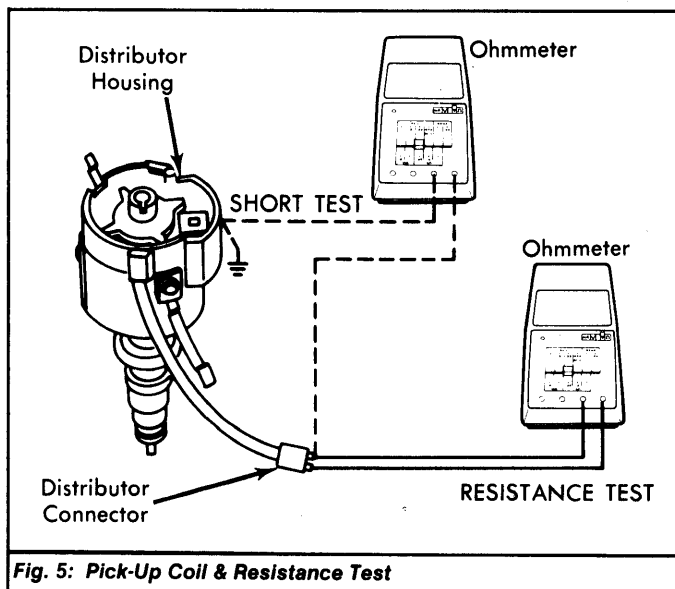

Fig. 5: Pick-Up Coil & Resistance Test
- 1) Turn ignition switch off. Disconnect connector for terminals "W" and "G" at amplifier module. Using an ohmmeter set in the x100 scale, check the resistance between distributor connector terminals. See Fig. 5.
Using an ohmmeter, connect leads to either distributor connector terminal and engine ground. An infinity reading should exist. If not, replace magnetic pick-up coil and harness assembly. See Fig. 5.